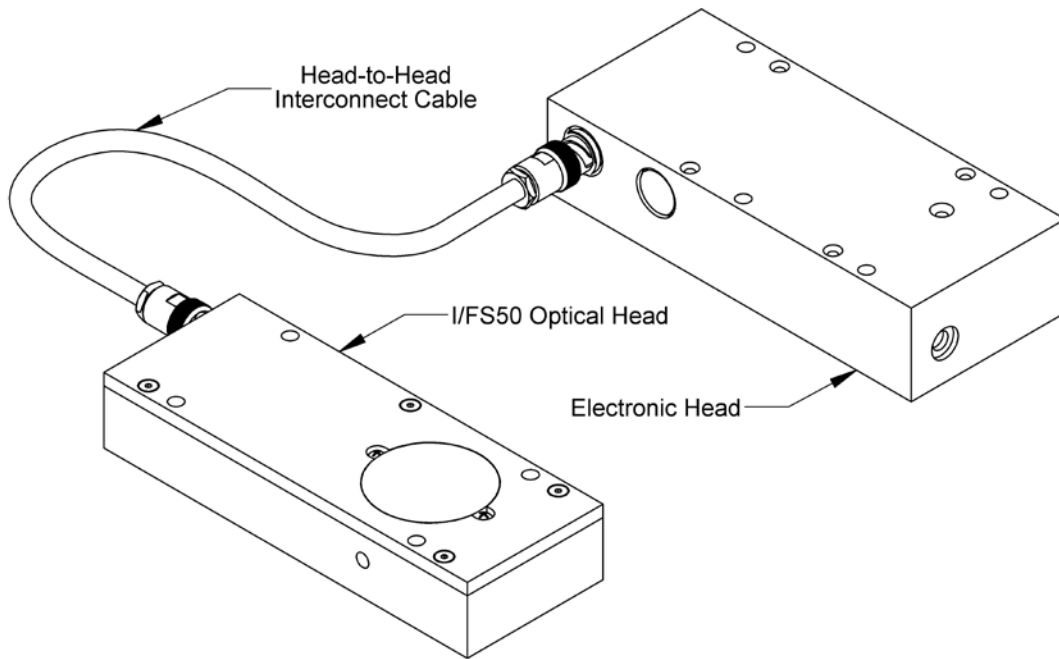

Figure 4.1 Connecting I/FS50 Optical Head to Electronic Head
1. Connect the optical head to the electronic head by means of the Head-to-Head interconnect cable. See figures 4.1 and 4.2 on the following page.